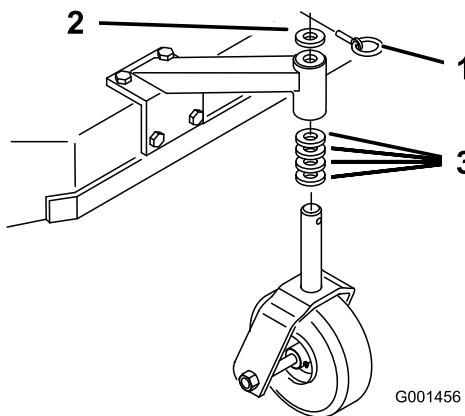

Figure 17
1. Adjust the caster spacers to match with the axle hole selected (Figure 17); refer to Height-of-Cut Chart \(page 19\) and .
2. Remove the latch pin, slide the caster from the support, and change the spacers (Figure 17).
3. Install the caster in the support and insert the latch pin (Figure 17).